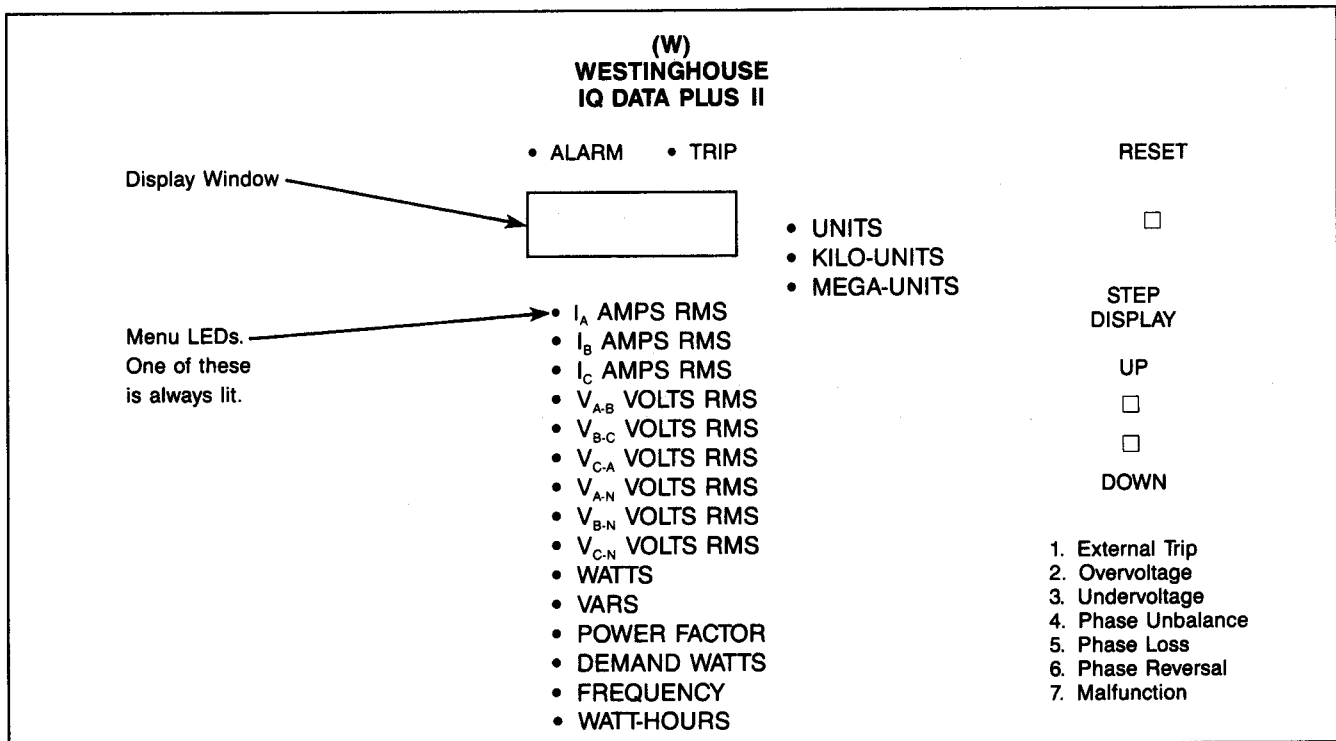

Figure 3.1 Operator Panel
3.1 Membrane Pushbuttons — The Operator Panel supports 3 membrane pushbuttons. (See Figure 3.1.) The membrane pushbuttons perform the following functions:
3.2.2 Units LEDs: Auto range units for monitoring — Units, kilo, mega. Refer to Figure 3.1.